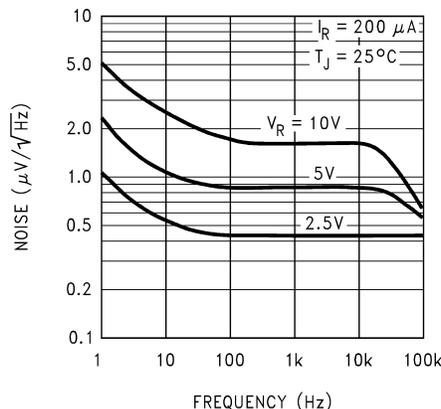

Figure 6-1. LM4050 Noise Voltage vs Frequency
In Figure 6-1 the frequency domain plot is given from 1Hz to the complete frequency range. In this plot the noise level $k = 432\text{nV}/\sqrt{\text{Hz}}$ and a corner frequency $F_c = 65\text{Hz}$. Also the lower limit for flicker noise (FL) = 0.1Hz and the higher frequency limit (FH) is 10Hz. With this information the RMS flicker noise can be calculated as...